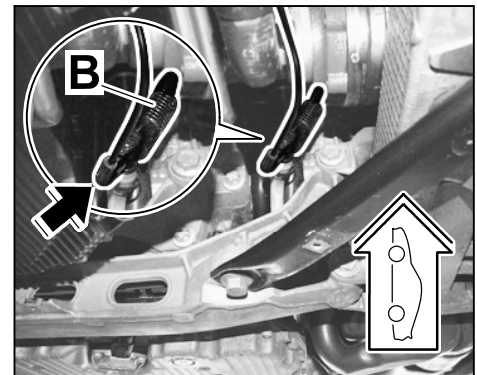

Figure 10
- 4.2.1 Pull vacuum line with standard bent protective tube ⇒ *Figure 10 -arrow-* off the vacuum supply adapter ⇒ *Figure 10 -B-*.